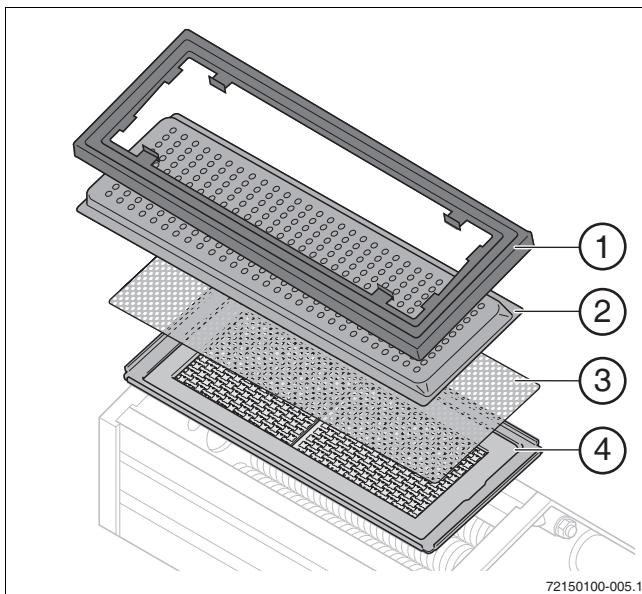

Fig. 5
- Remove burner gasket (→ fig. 5, [1]).
- Remove gas-air distribution plate (→ fig. 5, [2]).
- If present, remove old diffuser plate (→ fig. 5, [3]).